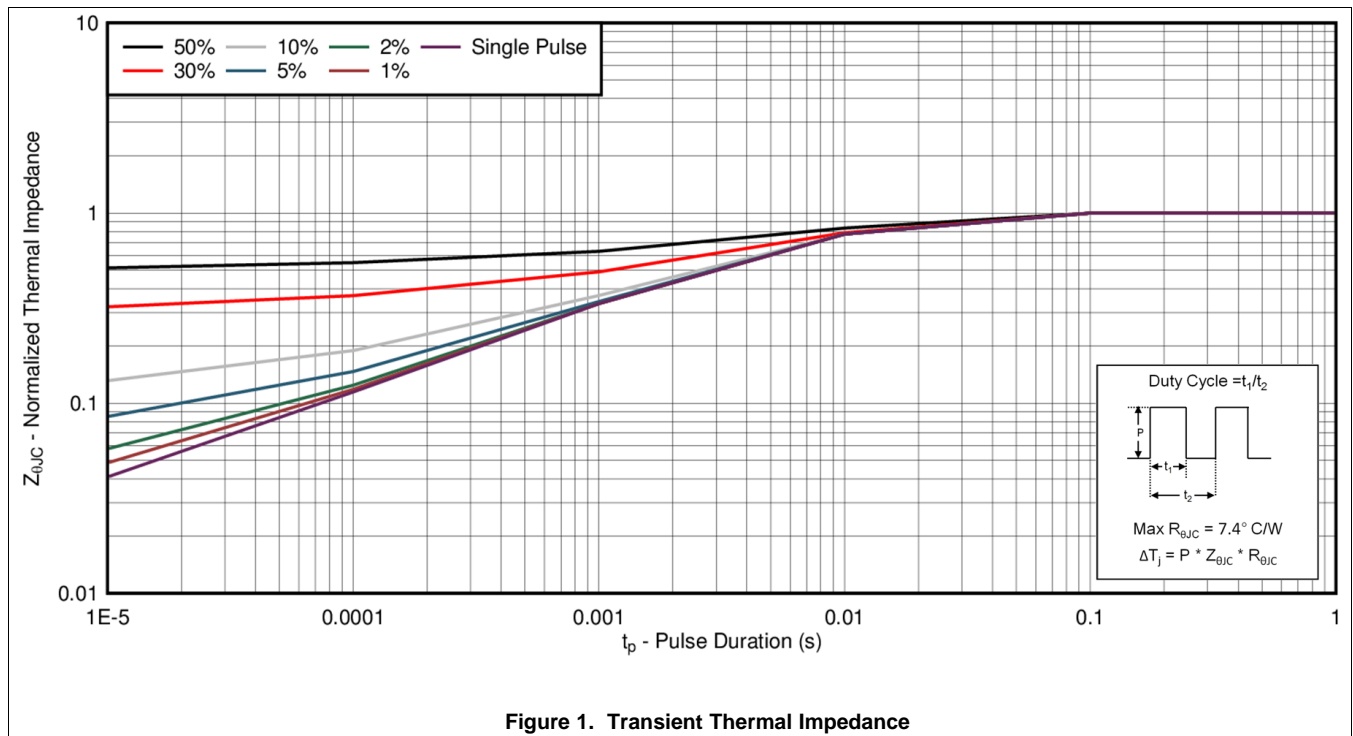

Figure 1. Transient Thermal Impedance
• Updated <a href="#">Figure 1</a> to show $R_{\theta JC}$ curves .....	4